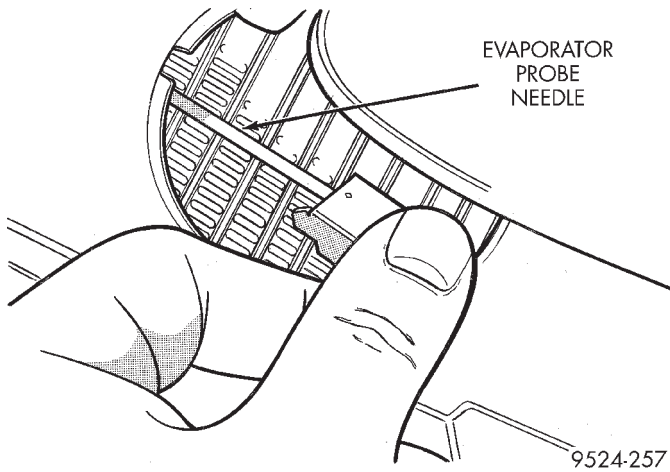

Fig. 43 Remove Probe
- (5) Pull probe out of evaporator core (Fig. 43). This plate must be pushed inside the A/C unit and orientated in such a way that the plate can be removed.